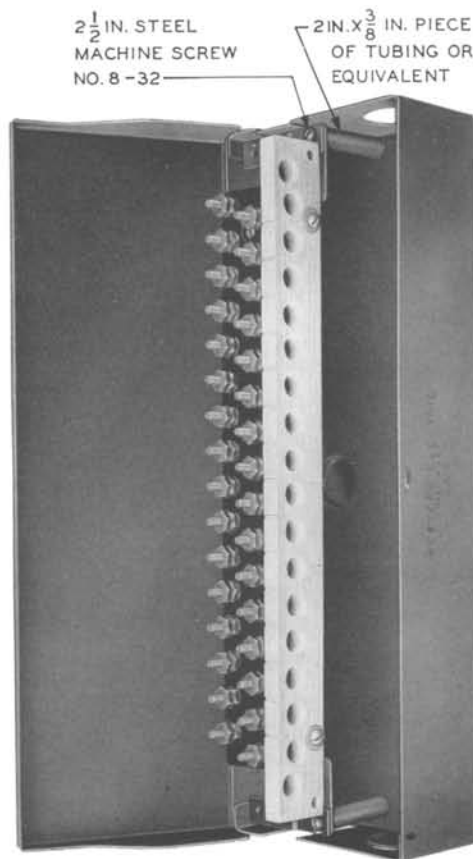

FIG. 3—TEMPORARY MOUNTING OF ADAPTER
3. Mount the adapter temporarily in the box (shown in Fig. 3) to facilitate terminating the inside wire or cable conductors.